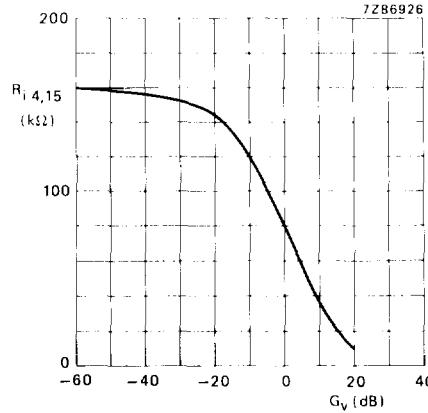

Fig. 4 Input resistance (R_i) as a function of gain of volume control (G_V). Measured in Fig. 1.
1. Equation for input resistance (see also Fig. 4)